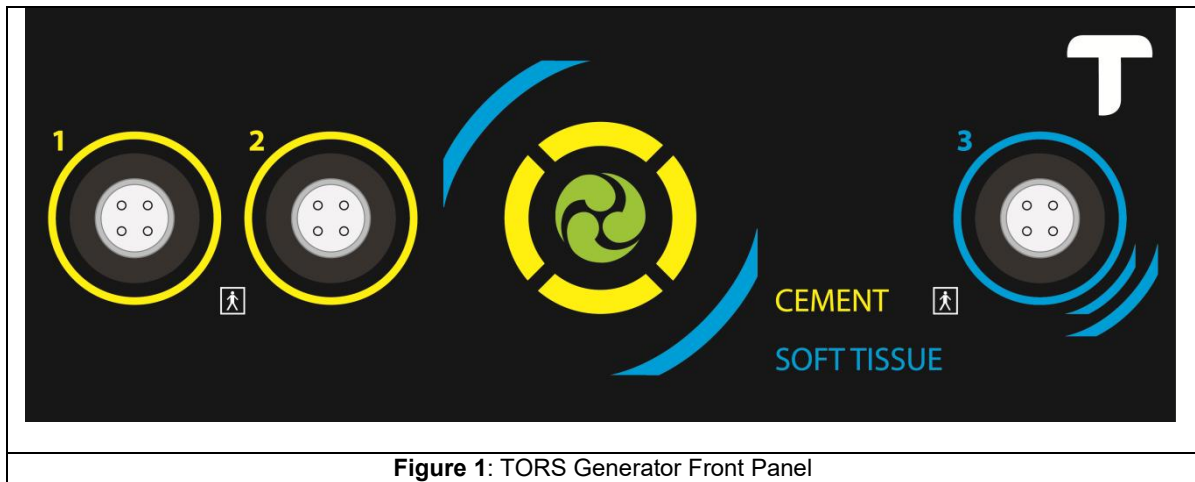

Figure 1: TORS Generator Front Panel
- The generator will now power up with an audio indicator, five sets of tones, conduct a brief full screen illumination test as shown in Figure 1.